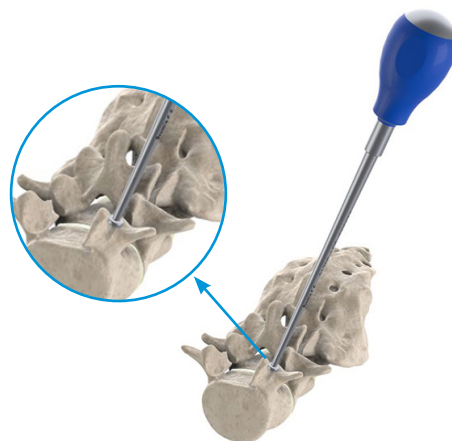

Figure 6a: Introduce the Pedicle Awl into the bone until reaching its hard stop
- iii. Introduce the Pedicle Awl into the bone until reaching its hard stop (Figure 6a). Remove the Pedicle Awl and advance the Pedicle Probe into the vertebral body. Place the Pendulum on the Pedicle Probe shaft to confirm that proper medial-lateral angle is achieved (Figure 6b). The Depth Gauge and Feeler may be used to ensure that the pedicle walls have not been breached (Figure 6c). Use the Depth Gauge and Feeler to measure optimal screw length. Identify the proper diameter screw, recognizing that the largest diameter should be used to maximize the screw bone purchase. Select a screw length that allows the superior pedicle screws to be 2 to 5 mm proud dorsally. You may want to consider using a pedicle screw that is 5mm longer than you would normally choose for a fusion case--especially in a segment with a more pronounced Grade I spondylolisthesis.